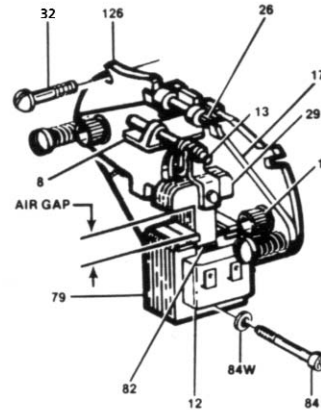

Figure 1. Motor Brake Adjustment
The motor brake should be checked periodically for wear of the friction discs and/or proper adjustment of the solenoid air gap. Refer to Figure 1. Normal lining wear will cause the solenoid lever (8) to move away from the solenoid frame (79) and thus increase the air gap and trolley stopping time.
(Refer to Figure 1 on page 17 and Exploded
2. Remove housing (3) from the brake and disconnect the coil wires from the cord.
3. Insert screw driver between support plate (126, Fig.1) and the top of lever arm (17, Fig.1). Wedge these apart and remove bearing pin (26, Fig.1) and solenoid lever (8, Fig.1) with link (13, Fig.1) and plunger (29, Fig.1).
4. Remove plunger guide screw (84, Fig.1) and both plunger guides (82, Fig.1). Slide old coil sideways out of the frame (79, Fig.1). If coil is difficult to move, tap lightly with a soft hammer.
5. Install new coil in the same relative position as the old coil and replace the plunger guides (82, Fig.1) and screw (84 and 84W, Fig.1).